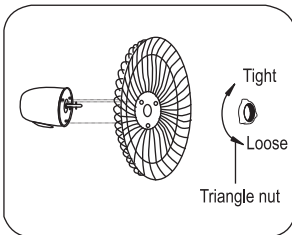

Figure 4
5. Take off the motor shaft cover from the fan head, and revolve the triangle screw off, then take off the fan tie on the back grill, and let three columns into the three holes in place fully, and finally tighten the triangle screw counterclockwise. (See Figure 4)